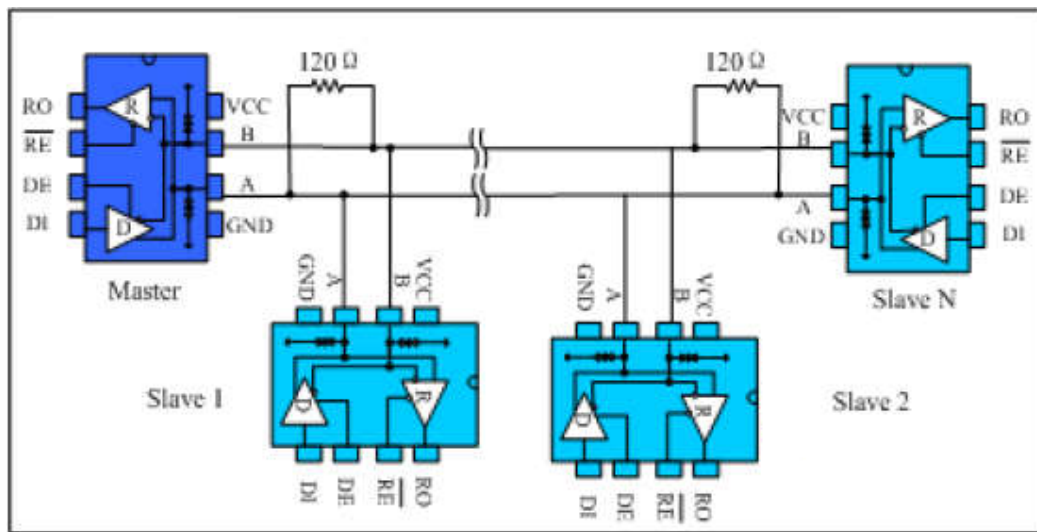

Figure 9. Bus-type RS485 half-duplex communication network
4.1 Bus networking: The MAX3485E RS485 transceiver is designed for bidirectional data communication on multi-point bus transmission lines. Figure 9 shows a typical network application circuit. These devices can also be used as linear repeaters with cables longer than 4000 feet. In order to reduce reflections, terminal matching should be done at both ends of the transmission line with their characteristic impedance, and the length of the branch wires other than the main line should be as short as possible.